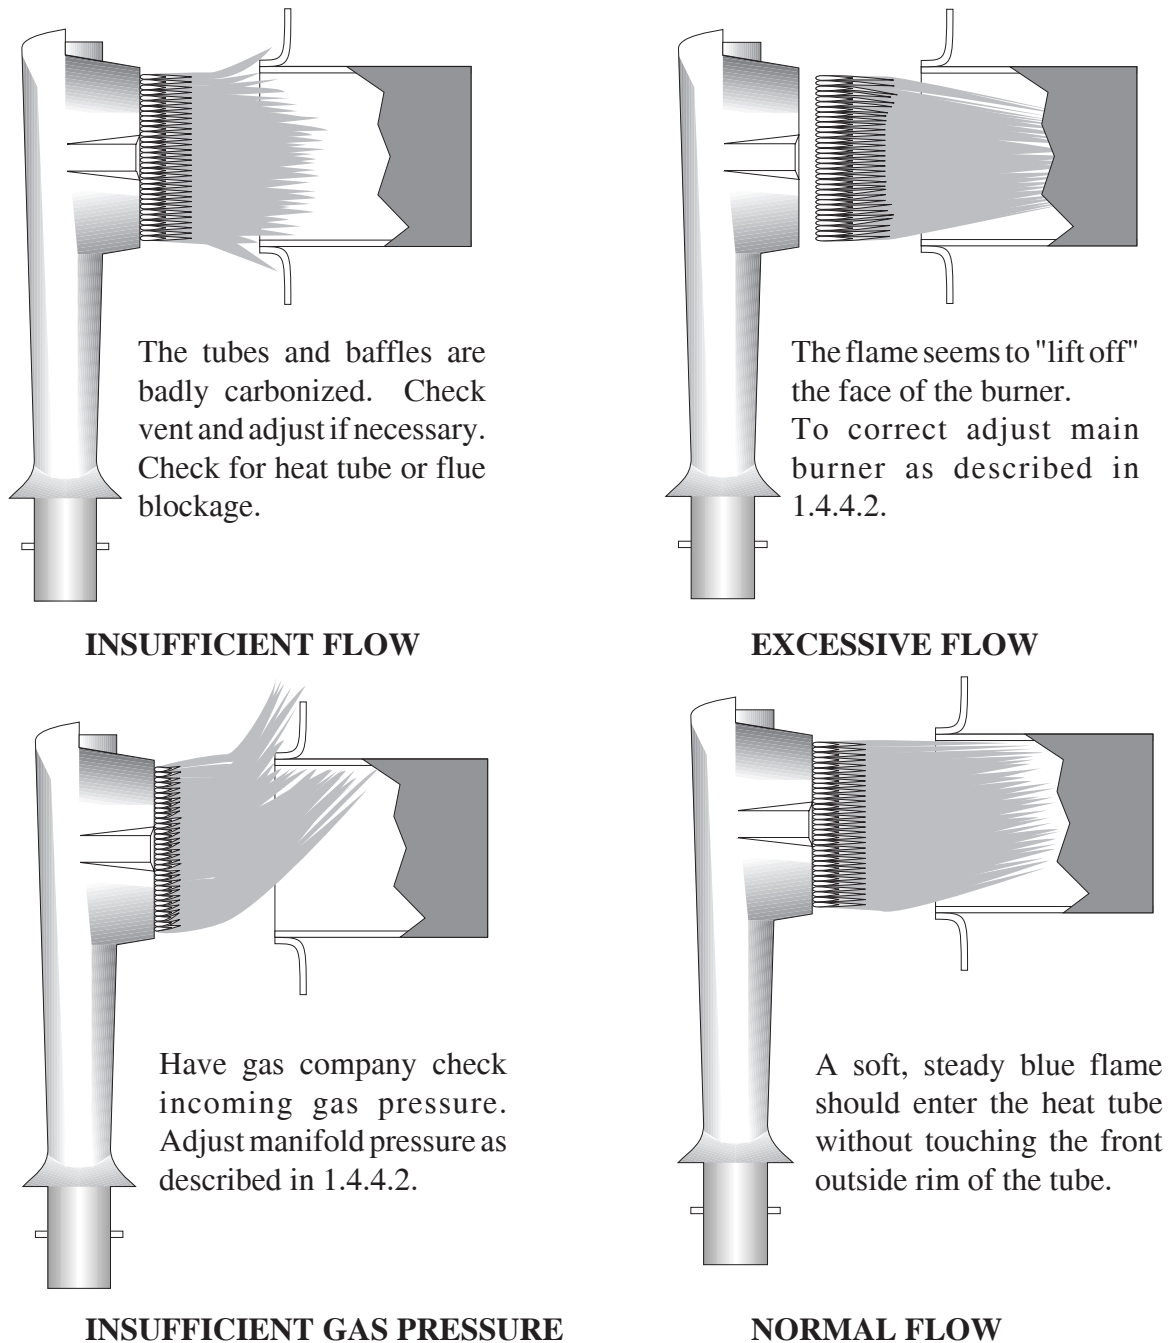

Figure 1-3 Main Burner Conditions
For the main burner to work, the gas supply valve must be open and the main power switch must be on. The main burner receives gas from the main gas supply through a thermostatically controlled gas valve. When the thermostat calls for heat, the gas control valve opens. After the burner system is operating, perform the burner adjustments in the following procedure. Figure 1-3 illustrates the different conditions possible for the main burner.
- n. The flame should enter the heat tube without touching the outside rim and it should not "lift off" the burner face. (Figure 1-3)